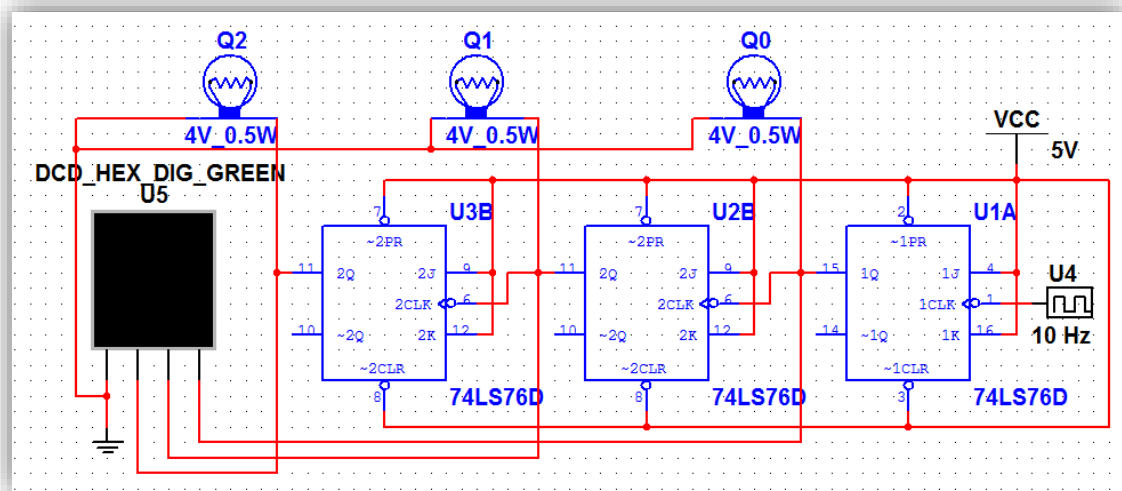

Fig 9.5: 3 bit Asynchronous Counter
1. Design the circuit on the bread board as shown in Figure 9.5.